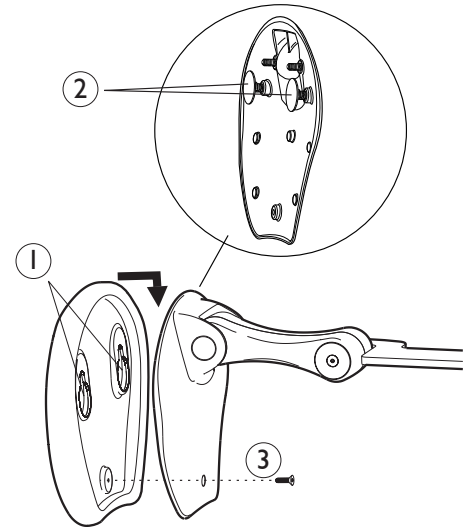

Figure 13. Assembling the headrest upholstery
- 2** Align the Keyholes (Figure 13, item 1) of the headrest upholstery to the Flat Head Bolts (Figure 13, item 2) on the headrest assembly.
- 4** Complete the assembly by adding the 6-32 screw to the back of the headrest as shown (Figure 13, item 3).